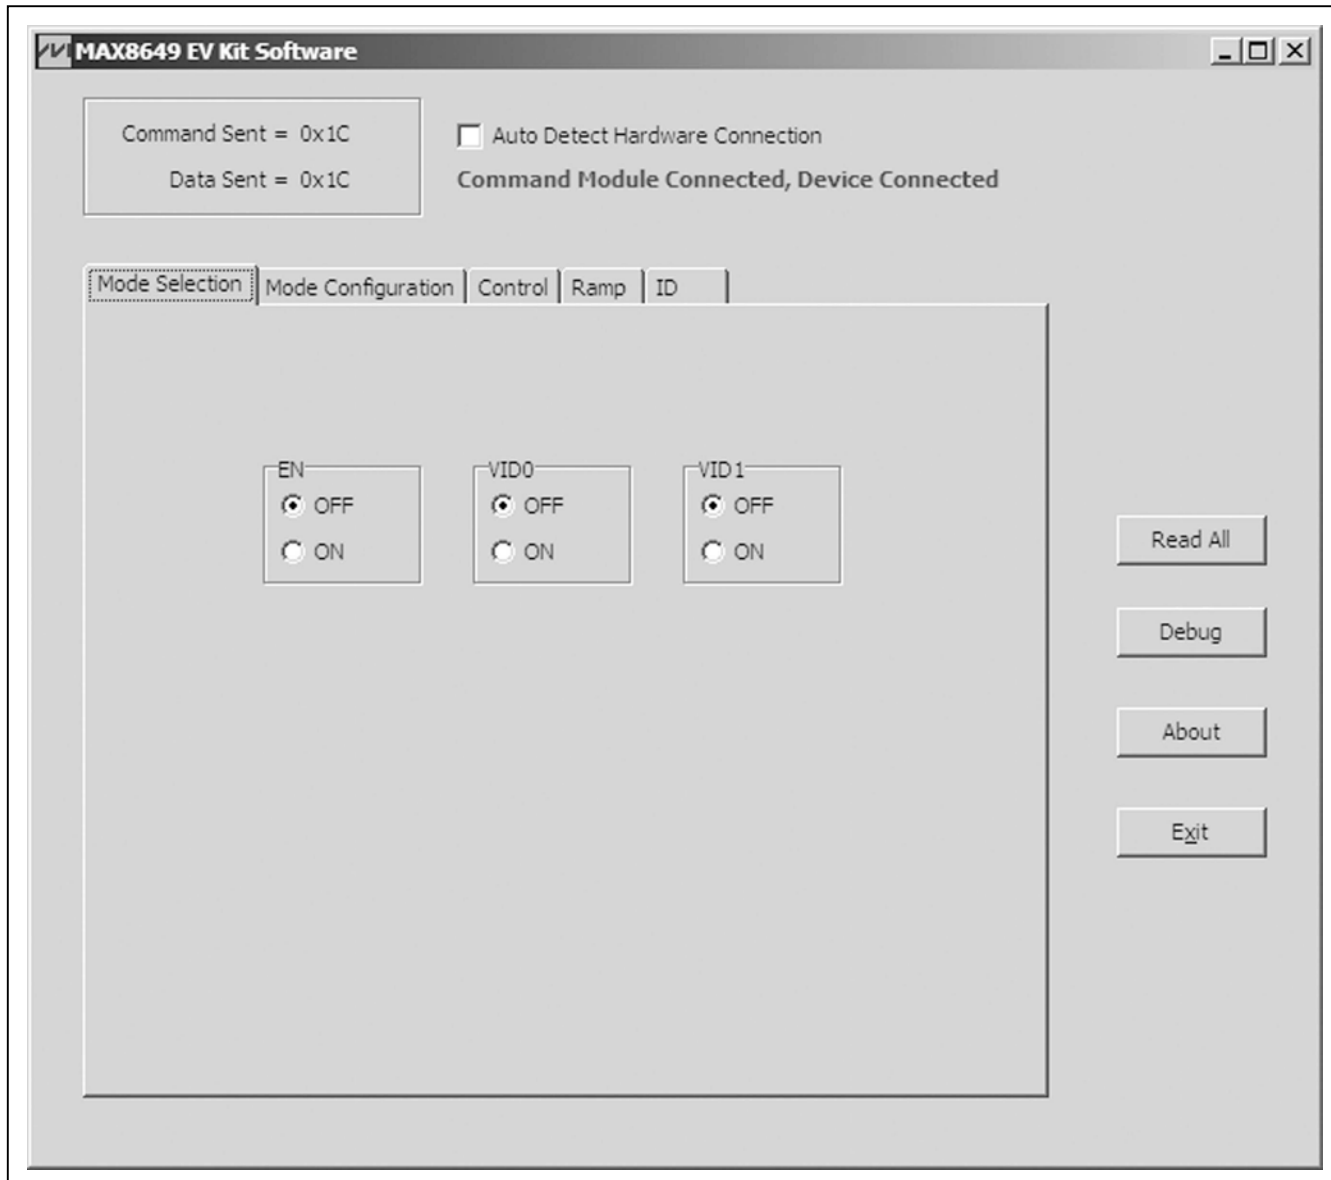
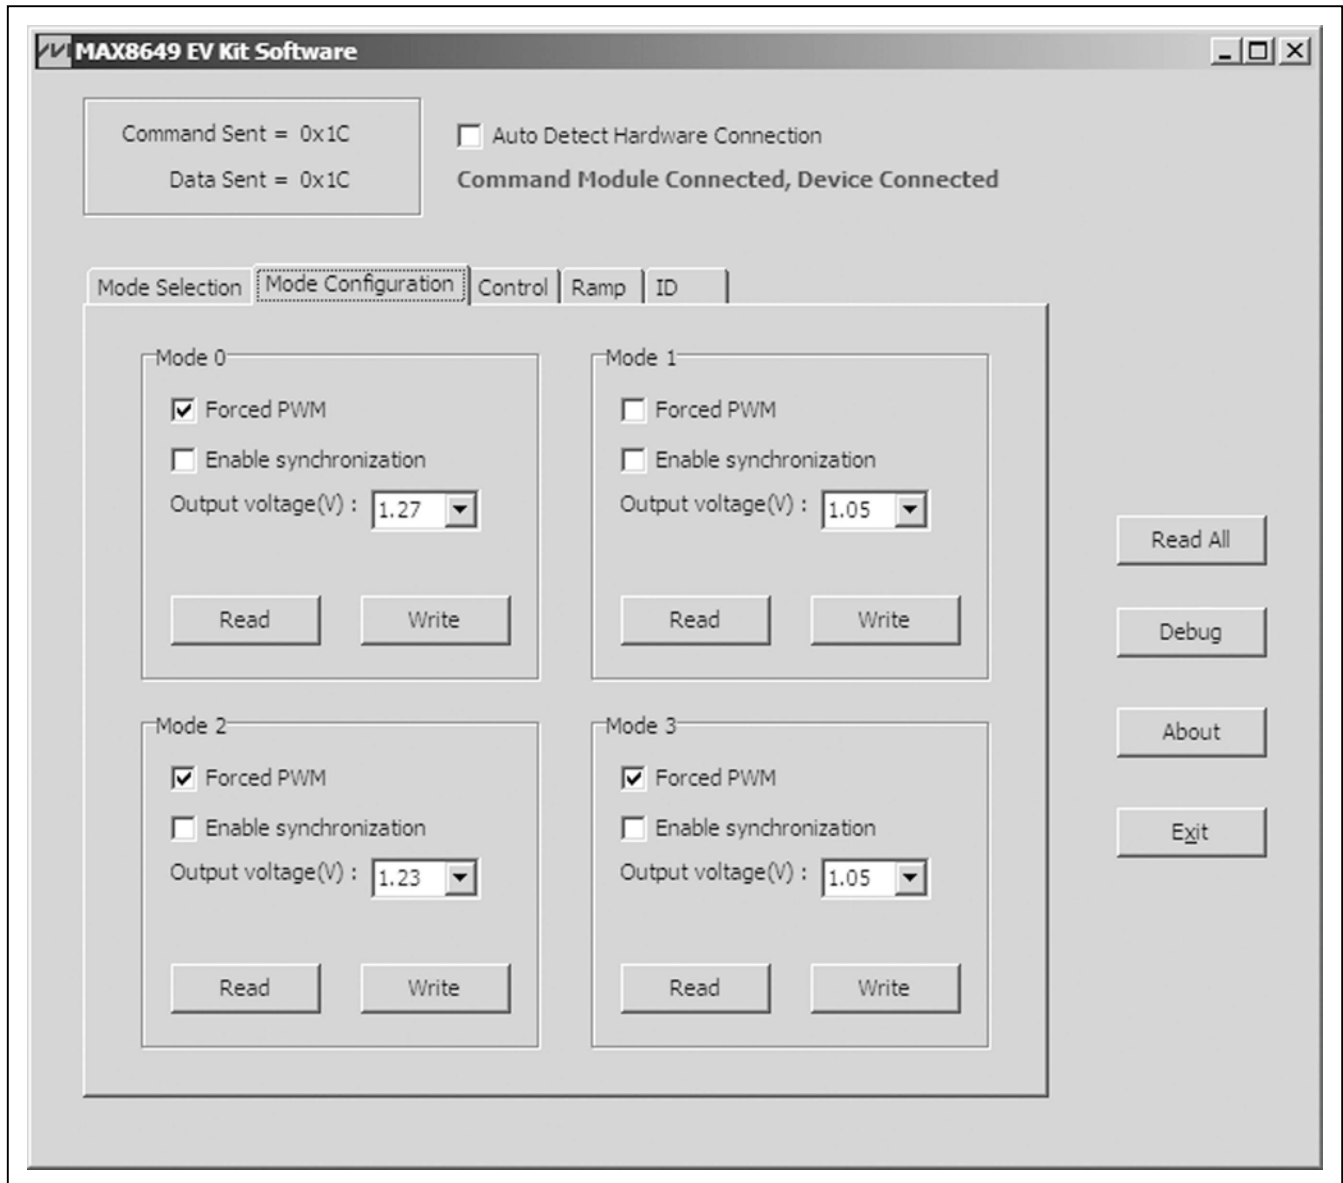
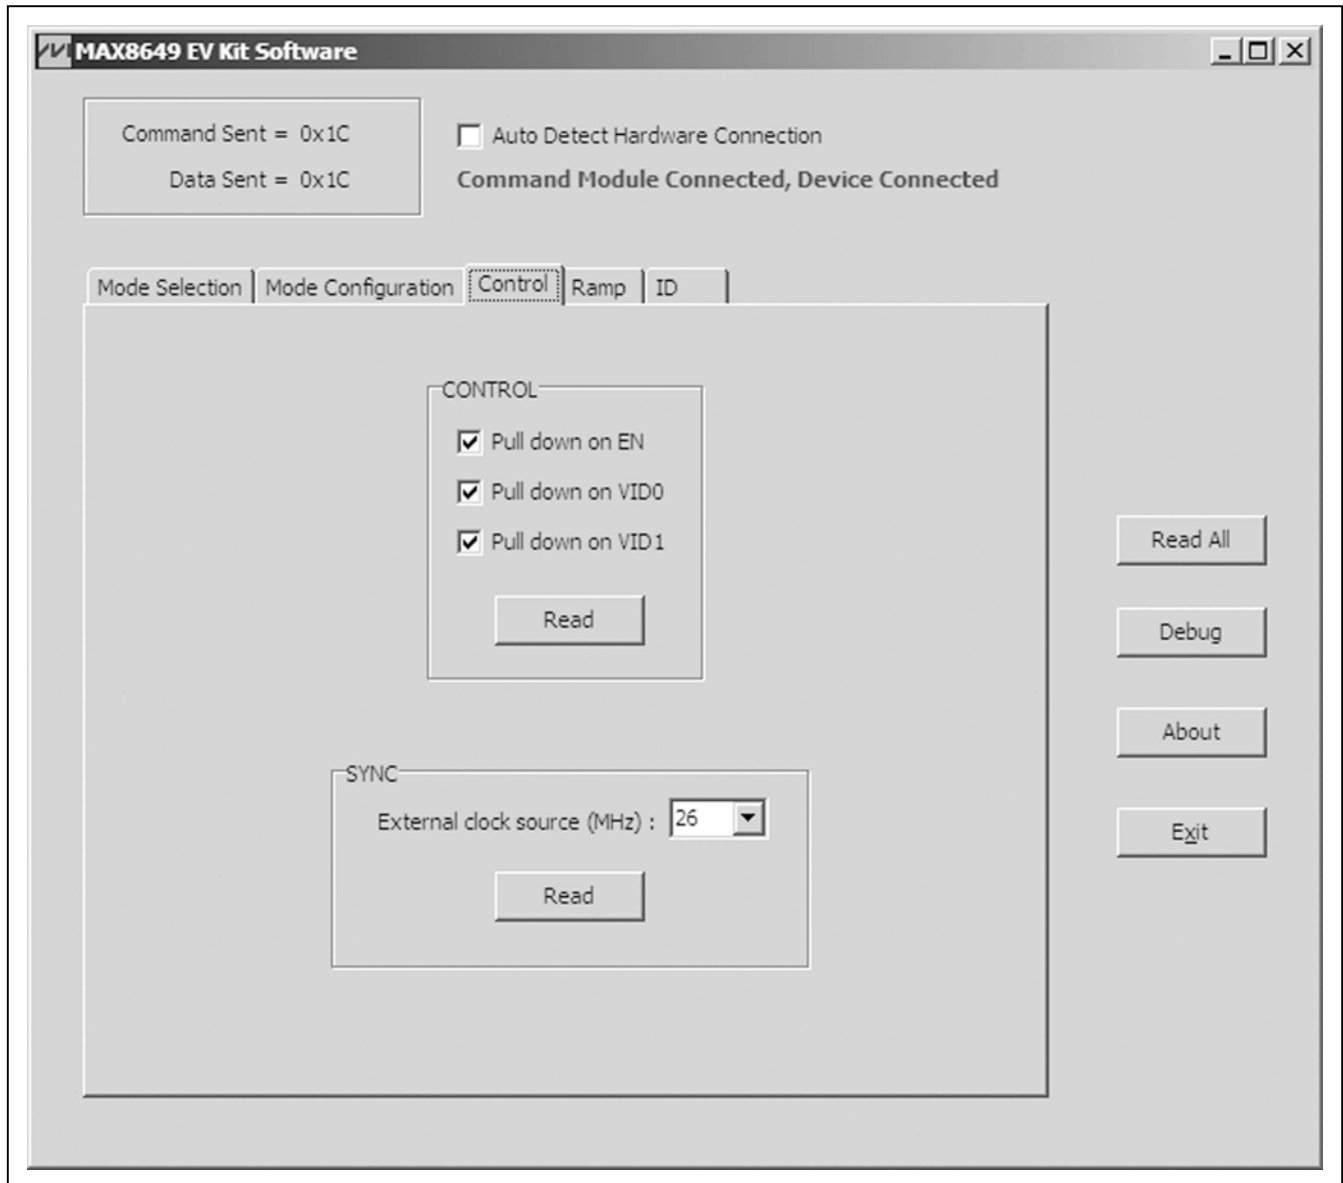

Figure 1. MAX8649 Evaluation Kit Software Main Window (Mode Selection Tab)
Figure 2. MAX8649 Evaluation Kit Software Main Window (Mode Configuration Tab)
Figure 3. MAX8649 Evaluation Kit Software Main Window (Control Tab)
- 3) Select the **Mode Configuration** tab (Figure 2). In the **Mode 0** group box, select the desired output voltage from the **Output voltage(V)** drop-down list.
Jumpers JU1, JU2, and JU3 control the EN, VID0, and VID1 signals (see Table 1). When software control is selected by connecting pins 1-3 of these jumpers, the corresponding signals are controlled by the EV kit software (see Figure 1). Note that jumper JU6 connects power (from IN) to circuitry controlling the EN, VID0, and VID1 signals. JU6 must be connected when using the software to control these signals. When measuring quiescent current of the IC, JU6 should be removed and the EN, VID0, and VID1 signals set high or low with JU1, JU2, and JU3.
To evaluate the external synchronization feature of the IC, connect the signal source to J3 (FSYNC). Using the software, check the **Enable synchronization** checkbox and press the **Write** button in the appropriate **Mode** _ group box in the **Mode Configuration** tab (see Figure 2). Select the signal frequency from the **External clock source (MHz)** drop-down list in the **SYNC** group box in the software **Control** tab shown in Figure 3.
- 1) In the EV kit software, select the **Mode Selection** tab and click on the **ON** radio button in the **EN** group box (Figure 1).
On startup, the software automatically tries to detect the MAX8649 EV kit. If the EV kit is not connected or not powered, **Command Module not found, keep trying to connect?** is displayed (Figure 3). Selecting **No** puts the software in demo mode, where all options can be viewed without communicating with the IC. To connect to the IC from demo mode, check the **Auto Detect Hardware Connection** checkbox. The software GUI is organized into five tabs: **Mode Selection**, **Mode Configuration**, **Control**, **Ramp**, and **ID** (Figures 1–5).
The **Mode Selection** tab sheet (Figure 1) controls the three digital inputs to the IC (EN, VID0, and VID1). To use the software to control these signals, jumper JU6 must be installed and pins 1-3 of jumpers JU1, JU2, and JU3 connected on the EV kit. Using JU1, JU2, and JU3 to set these signals high or low overrides the setting in the software. VID0 and VID1 set the mode used in the **Mode Configuration** tab. Set VID0 and VID1 to off for mode 0, VID0 on and VID1 off for mode 1, VID0 off and VID1 on for mode 2, or VID0 and VID1 on for mode 3.
The **Mode Configuration** tab sheet (Figure 2) controls the output voltage, forced PWM, and synchronization for each of the four VID modes. The active mode is set in the **Mode Selection** tab or with jumpers JU2 and JU3 on the EV kit.
The software **Control** tab sheet (Figure 3) provides controls to enable or disable the internal pulldown resistors on the digital inputs (EN, VID0, and VID1), and sets the frequency of the external clock (used when synchronization is selected in the **Mode Configuration** tab).